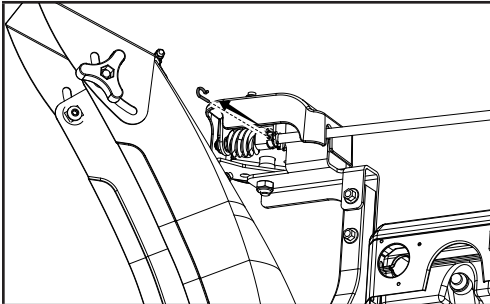

Figure 35
2. Pull out the R pin (Fig. 35).